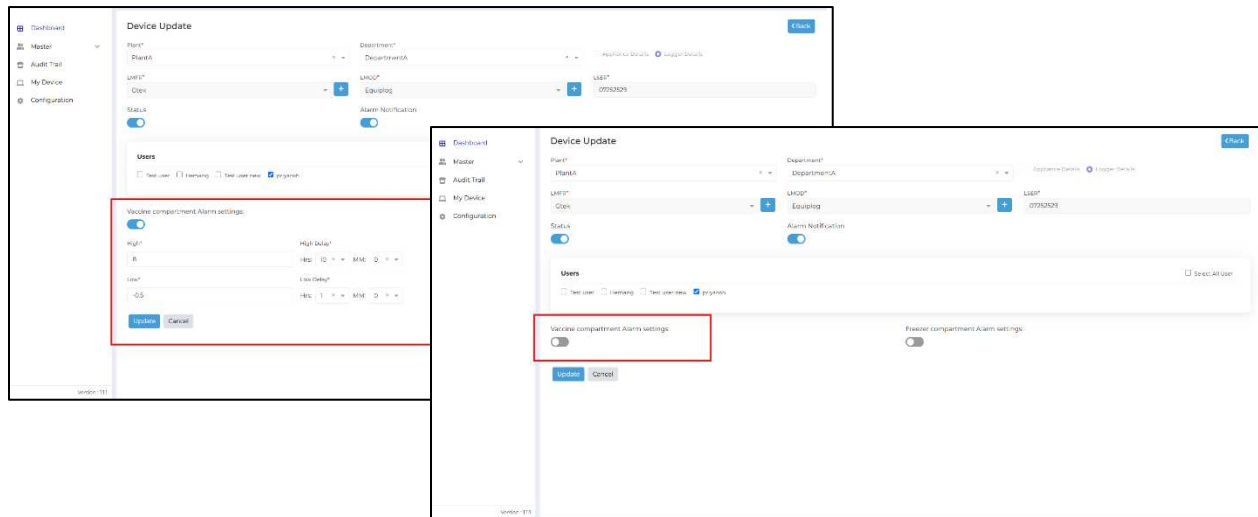

Figure 62 Alarm Monitor Disable/Enable for selected device
- In the device edit option, user can disable alarm monitoring by clicking on the slider button for Vaccine and/or Freezer Compartment Alarm settings and clicking on the **“Update”** button to send the command to the device as shown in figure 62.